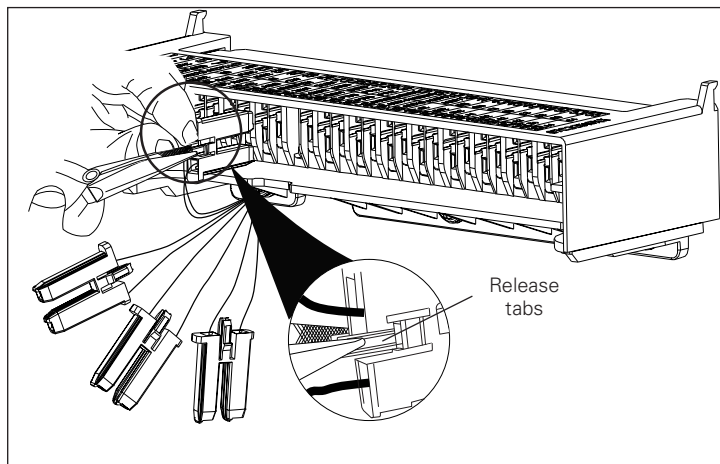

Figure 17. Connector plug removal.
2. Secondary connections are made by plugging the connector plugs into the appropriate location. A connector plug already connected can be removed by squeezing two release tabs together with small needle nose pliers and pulling out (Figure 17).
Step 5: To remove an accessory plug on a fixed circuit breaker, the appropriate fixed secondary terminal block must first be removed. To remove a fixed secondary terminal block, lift up on the small flexible mounting tab at the top of the fixed terminal block mounting plate, and rotate the terminal block out in the opposite direction shown in step 4. Once the terminal block is removed, the accessory connector plug can be unplugged from the bottom of the terminal block. Refer to Item 2 and Figure 17 under the heading “General information” in Section 4 for detailed assistance with the removal.